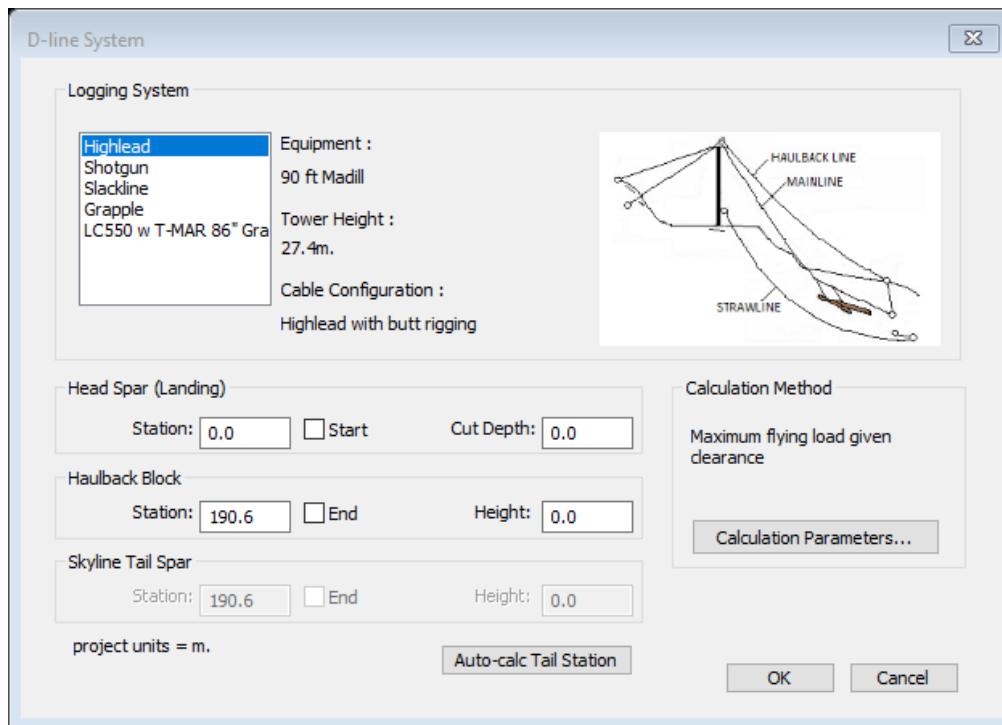

Figure 12-7: D-Line System dialogue box.
3. Select the *Cable-Analysis* tab in the ribbon bar, then click on the  *New* button. The *D-line System* dialogue box shown in Figure 12-7 will appear.